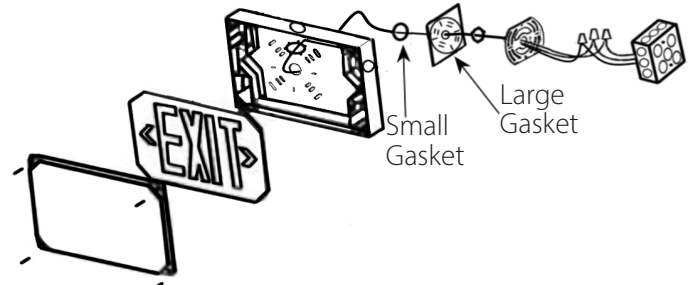

Figure 5 - Back Mount
- Feed the power supply through the knockout. Direct the input wires along the walls of the fixture to protect the wires and prevent shadowing. Run the wires through the mounting bracket as seen in "Figure 5" below.